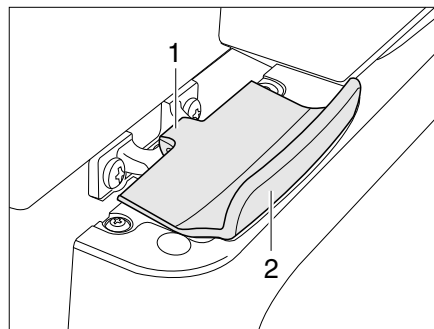

Fig. 342 Lock of refrigerator door, closed (Thetford)
- Open the refrigerator door at the handle (Fig. 342,2). The lock (Fig. 342,1) is released automatically.